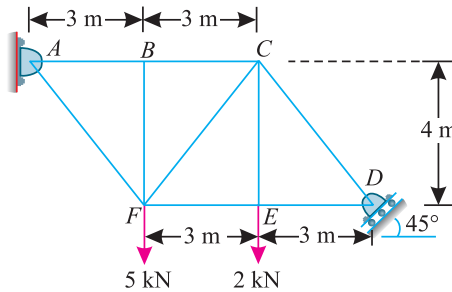

Fig. 12.33.
**Example 12.17.** A truss hinged at  $A$ , and supported on rollers inclined at  $45^\circ$  with the horizontal at  $D$ , is loaded as shown in Fig. 12.33.